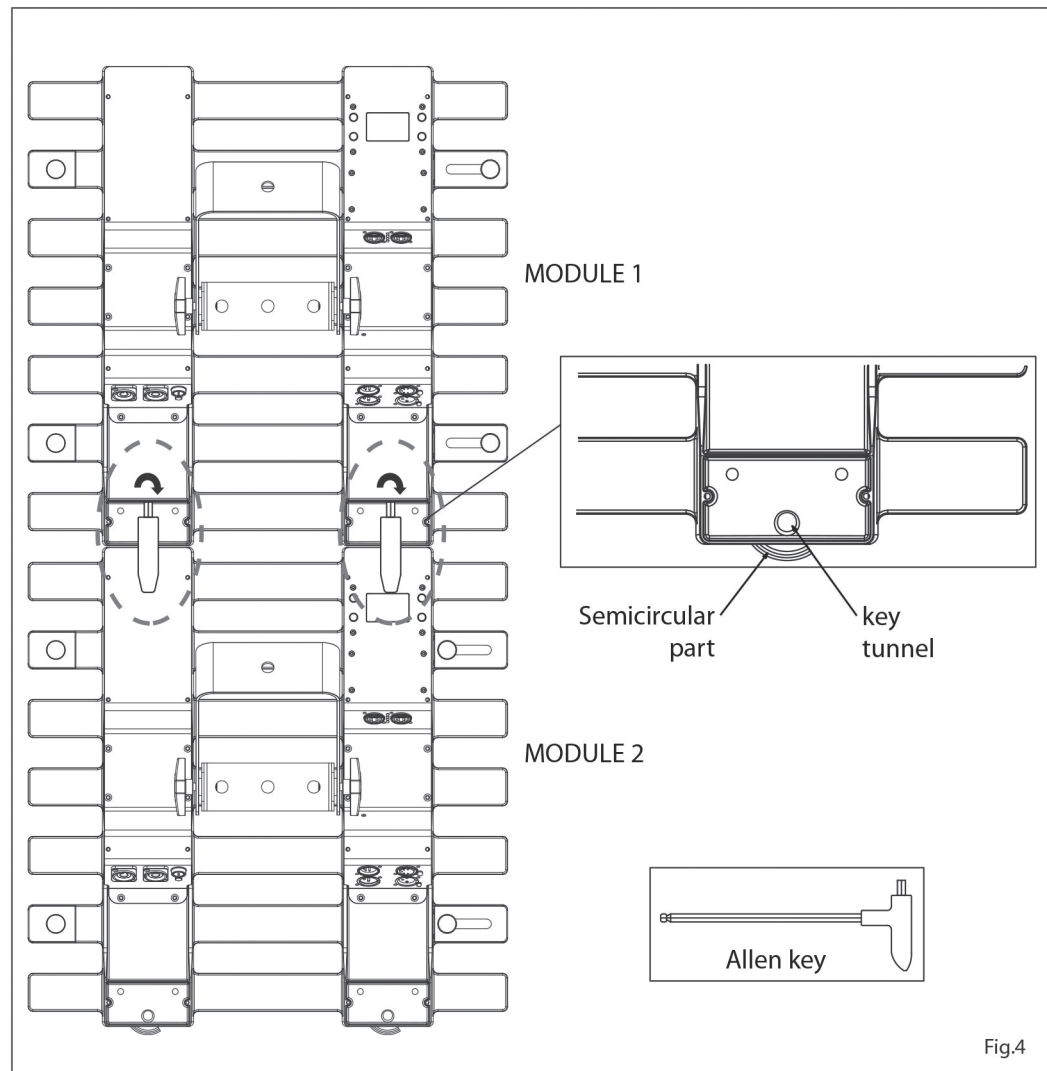

Fig.4
2. Up and down modules connected tightly as shown in figure 4.